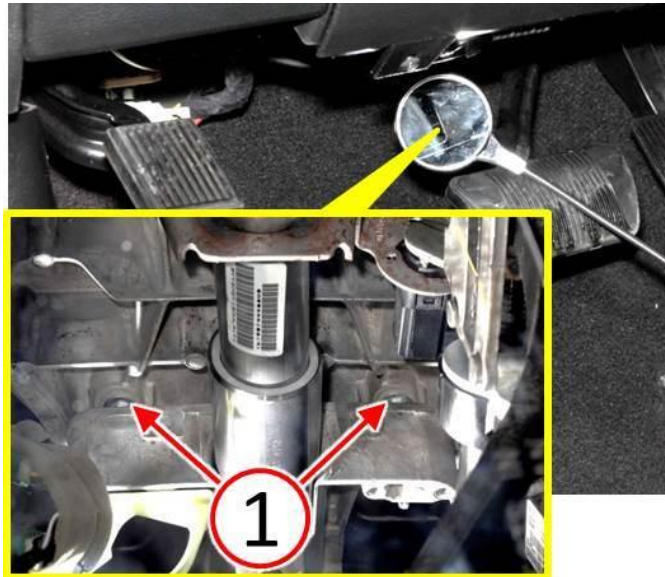
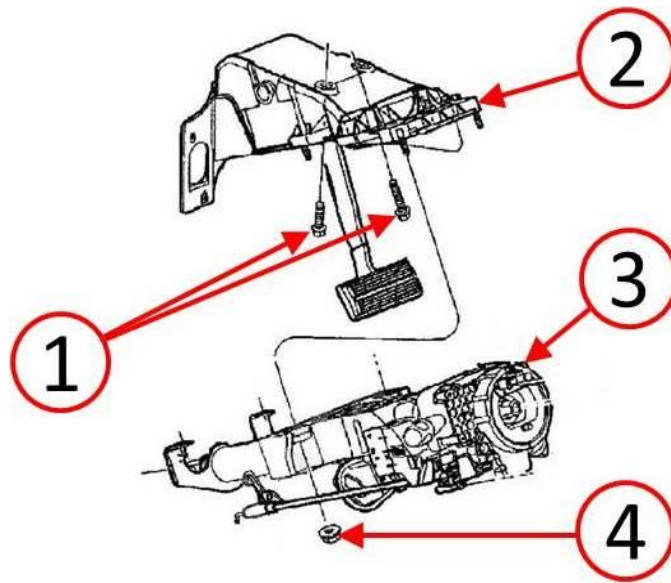

Fig. 1 Inspection Process
Fig. 2 Fastener Locations
1. Use an inspection mirror to locate the two bolts (1) securing the brake pedal bracket to the instrument panel (Fig. 1) and (Fig. 2).
NOTE: The screws will only be visible in a mirror while looking in a reverse direction under instrument panel sighting along the steering column shaft in the direction of the steering wheel. The screws (1) are located above the steering column support bracket, as shown in (Fig. 1).
2. Reach under the instrument panel above the steering column support bracket and by touch, locate the bolt heads (1) (Fig. 1) and (Fig. 2).
3. Feel the washers (1) for looseness, capable of being rotated with a finger (Fig. 1) and (Fig. 2).